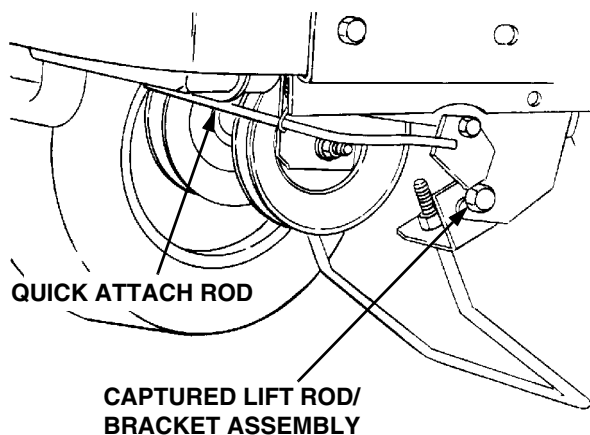

Figure 30
5. Release the tractor quick-attach rod to capture the front lift rod/bracket assembly in the tractor latch receivers (See Figure 30).